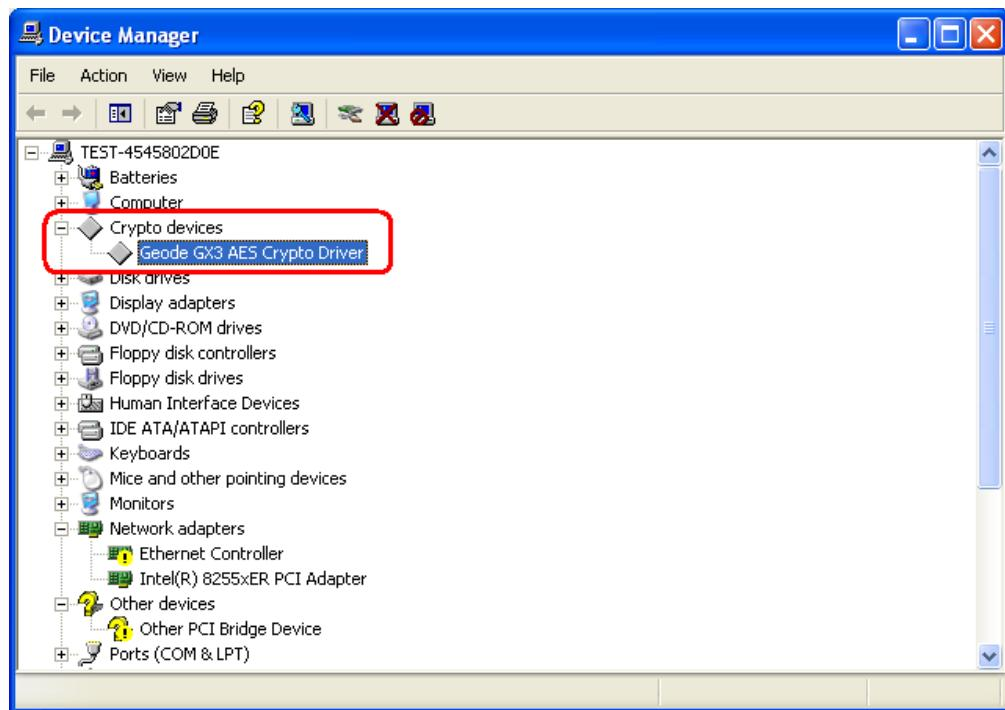

Figure 7-41: Device Manager Update
Step 73: The Device Manager refreshes and the Entertainment Encryption/Decryption Controller Driver can be seen in the Crypto Devices option. See **Figure 7-41**.